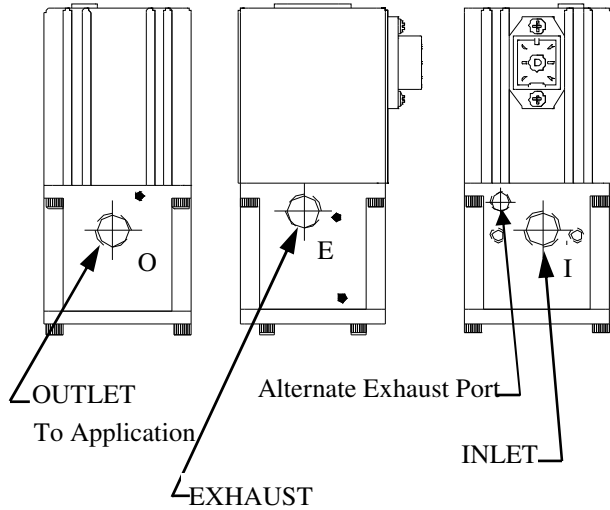

Figure 1
3. A 1/16" plug is supplied with the valve. It can be used to plug the "Alternate Exhaust Port" if the exhaust media should be captured or when the valve is used for vacuum or vacuum through positive pressure control. See Figure 1 for port location.
1. Connect supply pressure to the "I" port (Figure 1) not to exceed rated supply pressure. (See TABLE 1)
2. Connect the outlet "O" port (Figure 1) to the device being controlled.